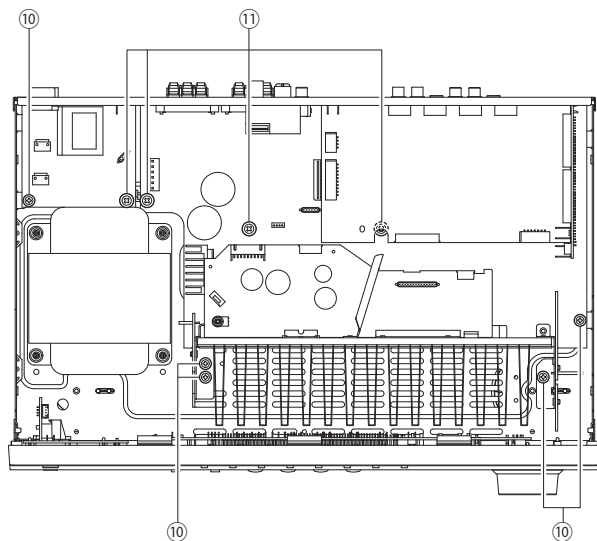

Fig. 5
- Remove 5 screws (⑩) and 4 screws (⑪). (Fig. 5)